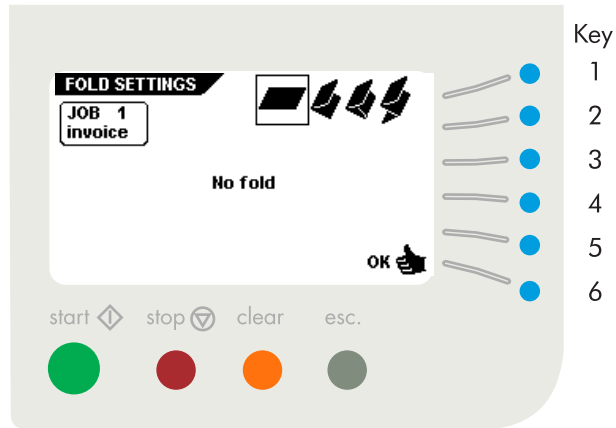

Fig. 43
When the “fold settings” menu is selected and key 3 is pressed in the “job settings” menu, the display shows the screen as shown in fig. 43. In this menu, the following choices are available by pressing key 1:
When no fold is selected, the display shows the screen as shown in fig. 43. The following choices are available: